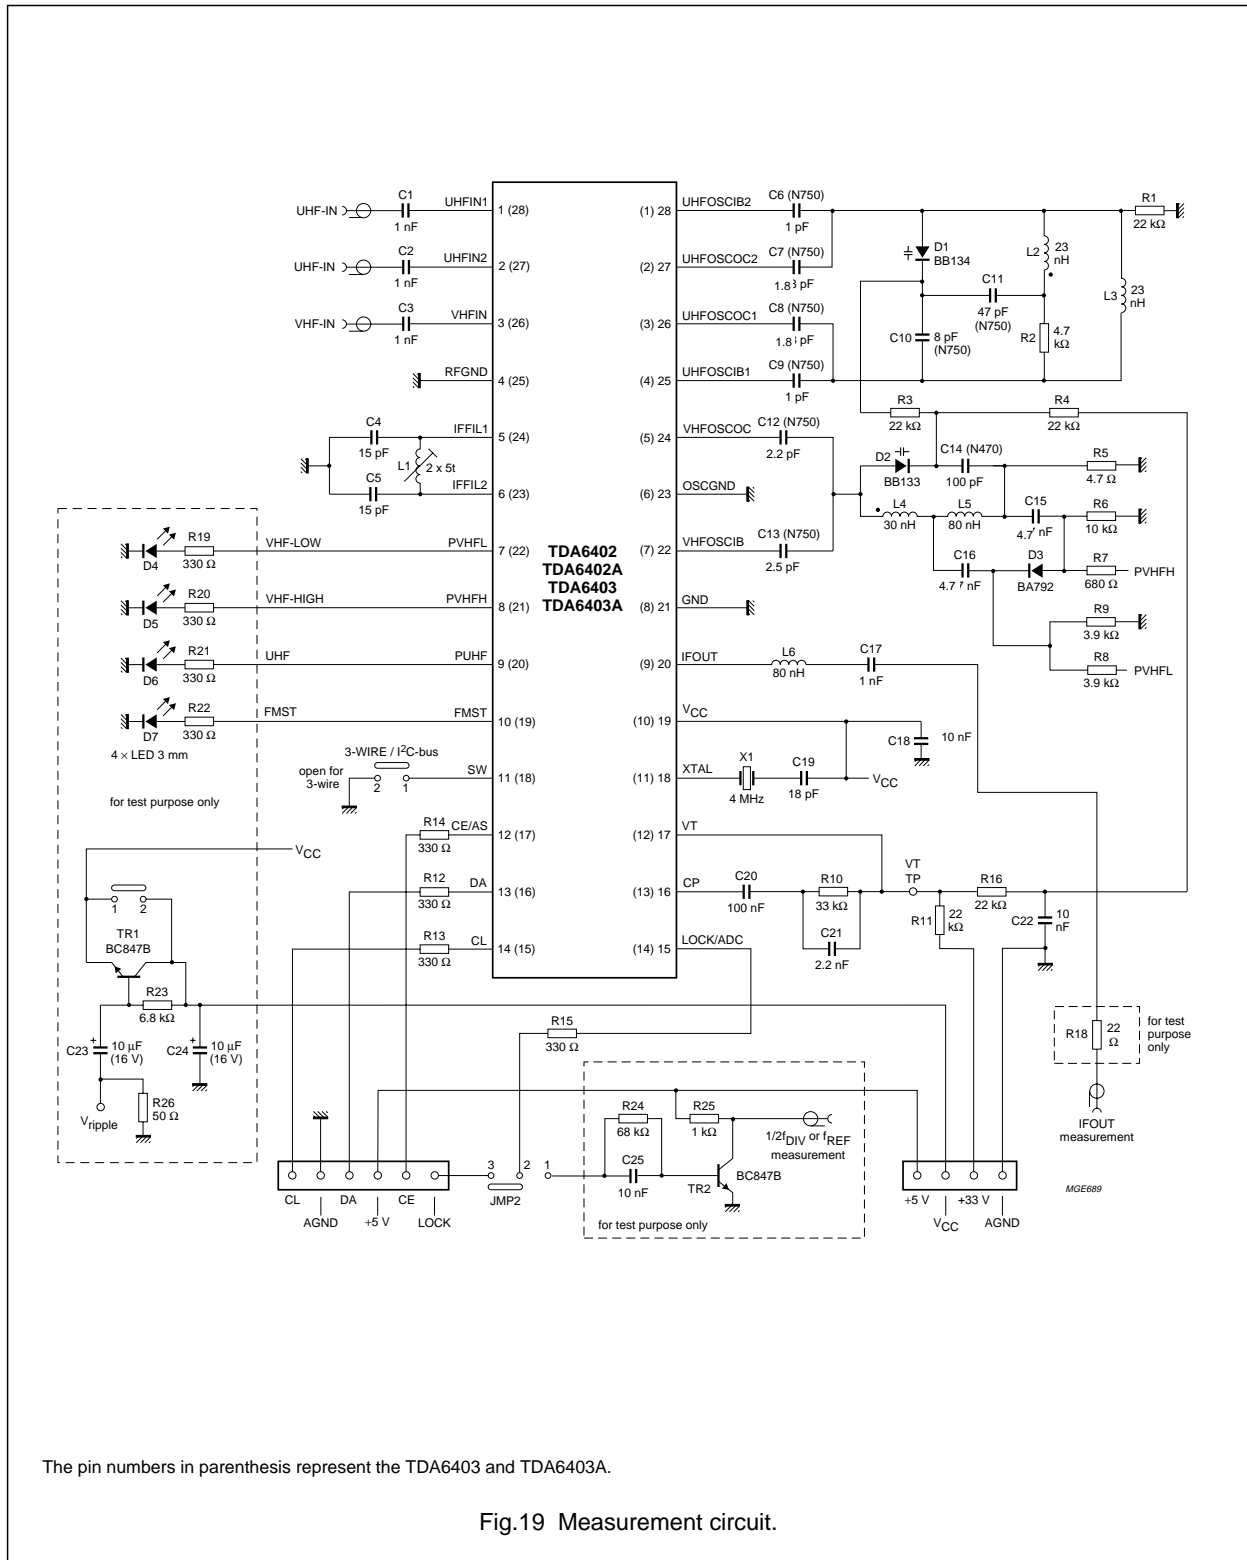

Fig.19 Measurement circuit.
VHF OSCILLATOR; see Fig.19
1. The RF frequency range is defined by the oscillator frequency range and the intermediate frequency (IF).
3. Limits are related to the tank circuits used in Fig.19; frequency bands may be adjusted by the choice of external components.
- The ripple susceptibility is measured for a 500 kHz ripple at the IF output using the measurement circuit of Fig.19; the level of the ripple signal is increased until a difference of 53.5 dB occurs between the IF carrier fixed at 100 dB μ V and the sideband components.
- This is the level of divider interferences close to the IF frequency. For example channel C: $f_{OSC} = 179$ MHz, $\frac{1}{4} f_{OSC} = 44.75$ MHz. Divider interference is measured with the Philips 37185 demonstration board in accordance with Fig.19. All ground pins are connected to a single ground plane under the IC. The VHFIN input must be left open (i.e. not connected to any load or cable); The UHFIN1 and UHFIN2 inputs are connected to a hybrid. The measured levels of divider interference are influenced by layout, grounding and port decoupling. The measurement results could vary by as much as 10 dB with respect to the specification.